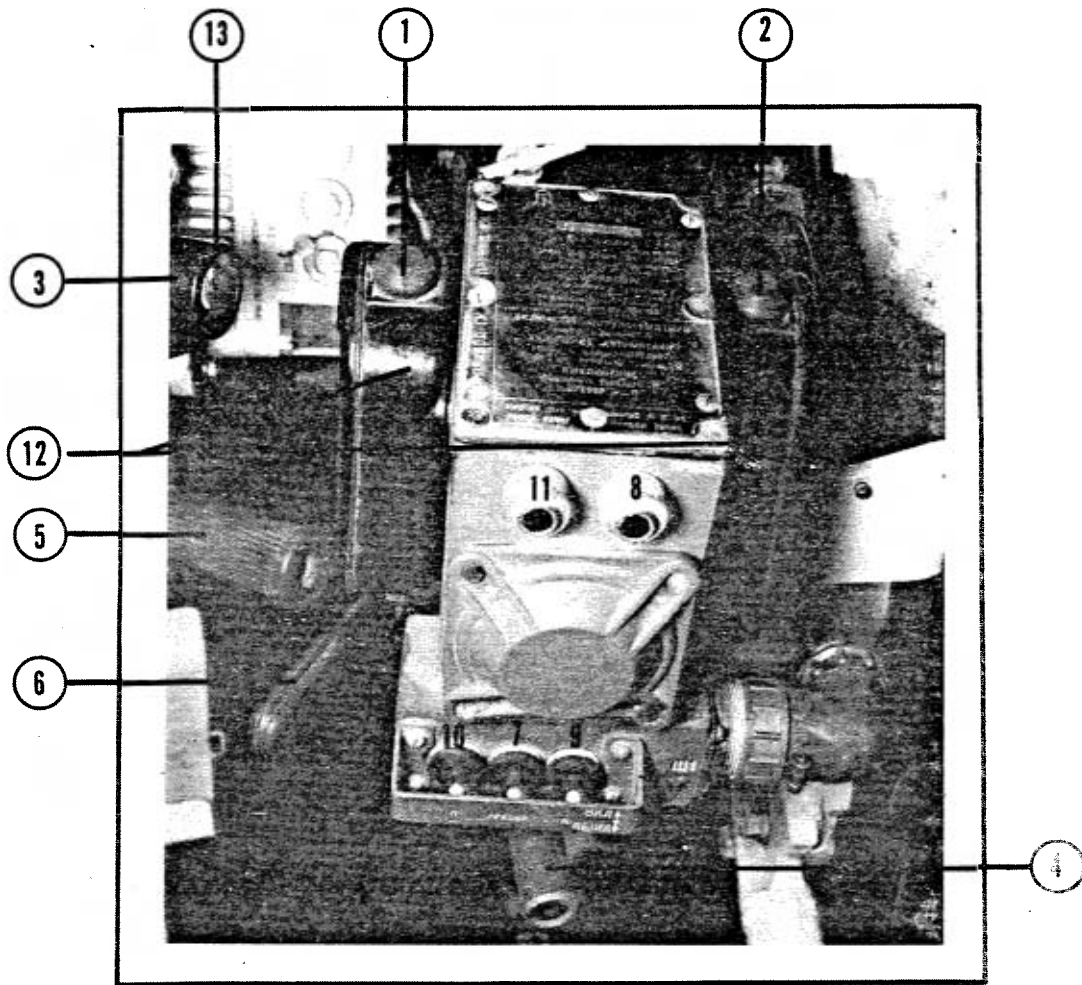

FIG. 3-37. GUNNER'S CONTROLS
(5) Gunner's Controls (Fig. 3-37). Directly in front of the gunner's seat are the gunner's controls. With these controls he can electrically traverse, elevate and fire the main gun and coax machine gun. In addition, there are three toggle switches across the bottom of the control gauge that turn on (from left to right) unstabilized traverse (UNSTAB TRAV), stabilized elevation (STAB ELEV) and stabilized traverse (STAB TRAV).